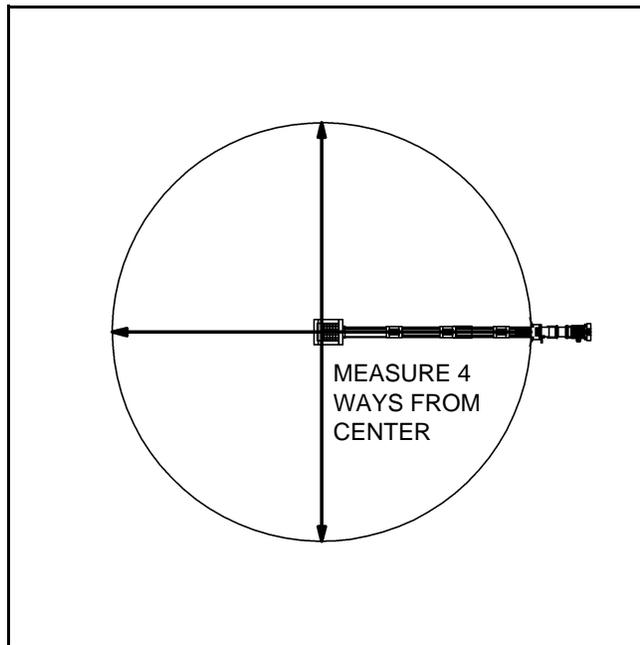

Figure 3.1
1. Set center hopper in center of bin. Do this by measuring in 4 directions from center (see Figure 3.1).